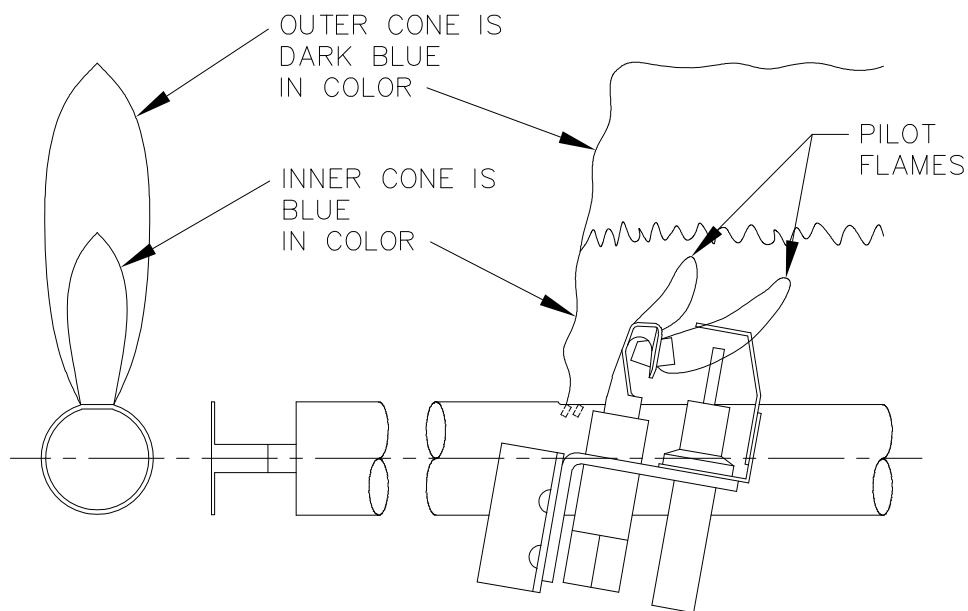

Figure 5: Intermittent Ignition Pilot Configuration and Flames
5. Check pilot flame. See Figure 5. The pilot flame should be medium blue covering approximately 3/8" to 1/2" (10 to 12 mm) of the sensing probe. If the flame is yellow and lazy, follow instructions TO TURN OFF GAS TO APPLIANCE (see Figures 2 & 3) and contact qualified service agency.
6. Check main burner flames. See Figure 5. The flames should have clearly defined inner cones approximately 1-1/2" (40 mm) high and should have a very sharp blue color characteristic. If the flame is yellow and lazy, follow instructions TO TURN OFF GAS TO APPLIANCE (see Figures 2 & 3) and contact qualified service agency.